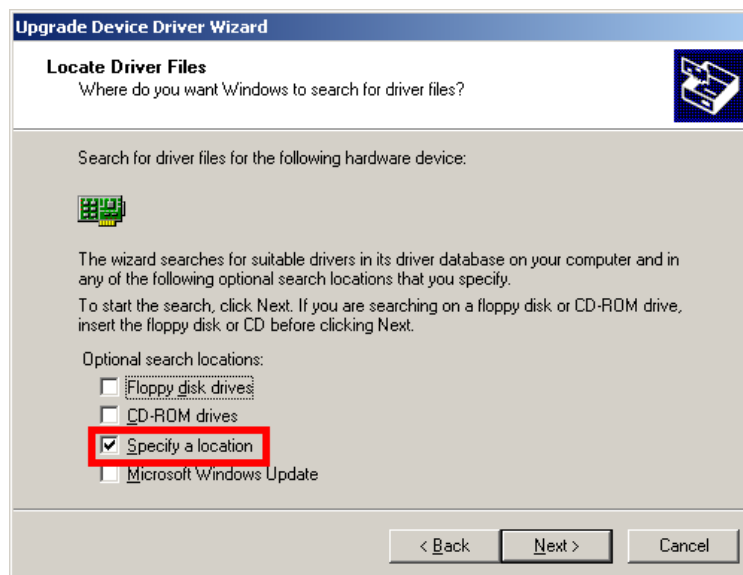

Figure 7-31: Locate Driver Files
Step 8: Select “**Specify a Location**” in the **Locate Driver Files** window (Figure 7-31).